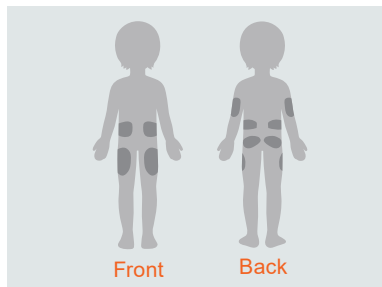
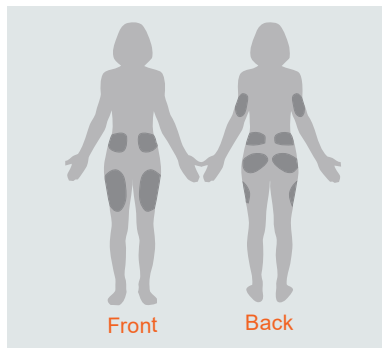

Figure 13
Figure 14
1. Firstly wash your hands. Then use an alcohol wipe to clean the infusion site area, removing any oils/dirt. Allow it to air dry. Remove the pump base from its packaging and place it on one of the suggested areas shown in Figures 13 and 14(abdomen, upper arm, thigh, lower back), where Figure 13 is a schematic diagram of application sites for children and Figure 14 is for adults. Avoid sites that may rub against other objects like belts, waistbands or tight clothing. Also, make sure that your infusion site is at least 2-3cm away from your navel.